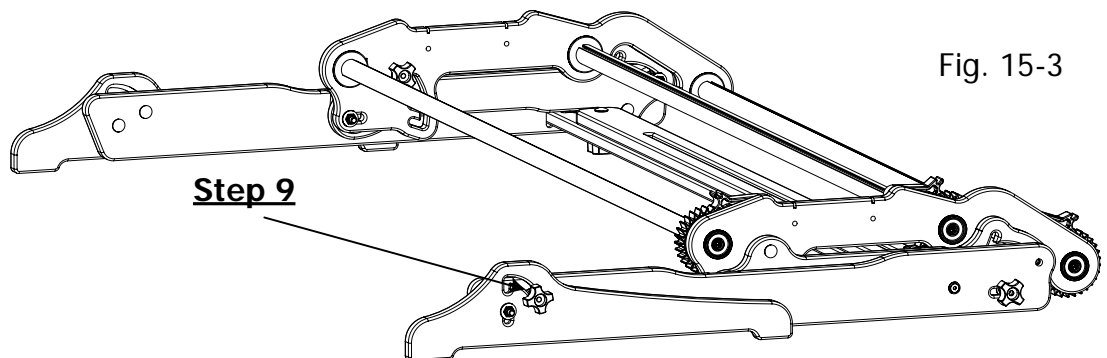

Fig. 15-3
- ⚙ **Step 9:** Retighten knobs on base legs. (As seen in Fig. 15-3)